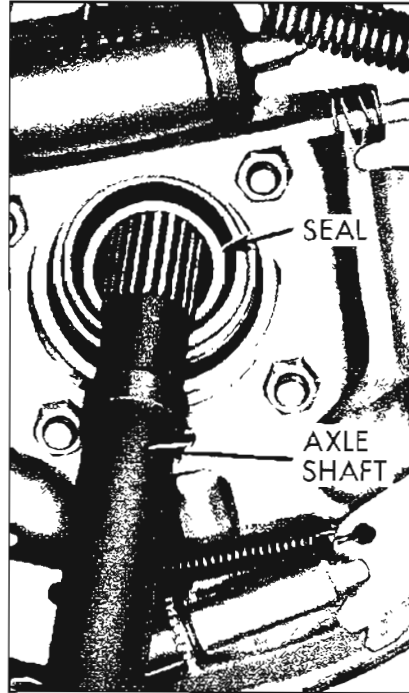

Figure 6-9—Removing Axle Shaft Seal
2. Using axle shaft as a lever, push down on shaft until seal is pried from housing. See Figure 6-9.